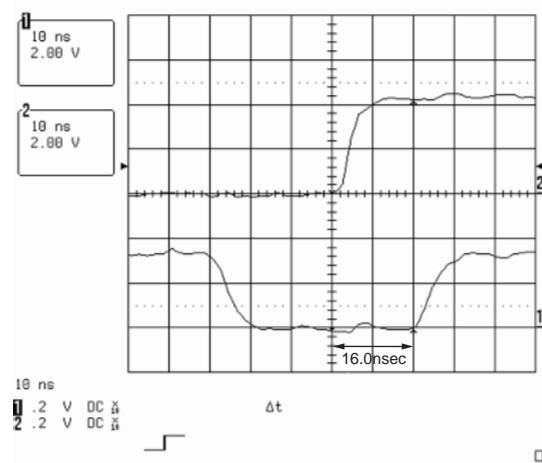

Fig. 2 CH1 HSYNC, CH2 OSD\_CLK (Enlarged)
- As shown in Figure 2, adjust so that the difference between rising edge of HSYNC and the rising edge of OSD\_CLK, when its L-period is long, would be  $16.0 \pm 5\text{nsec}$ .